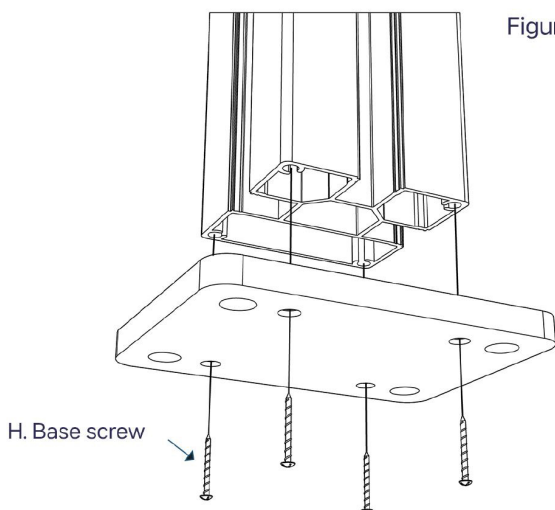

Figure 6
6. Combine the post and post base using the base fixing screws as illustrated in Figure 6.